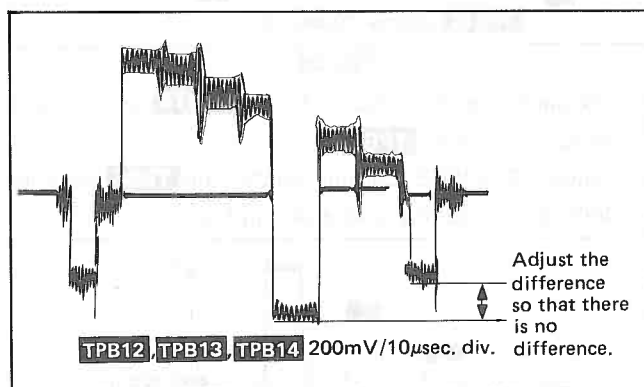

Fig. 42
- Adjust R5143 (R-Pulse Level) so that the waveform **TPB12** becomes as shown in Fig. 42.
- Adjust R5142 (G-Pulse Level) so that the waveform **TPB13** becomes as shown in Fig. 42.
- Adjust R5144 (B-Pulse Level) so that the waveform **TPB14** becomes as shown in Fig. 42.